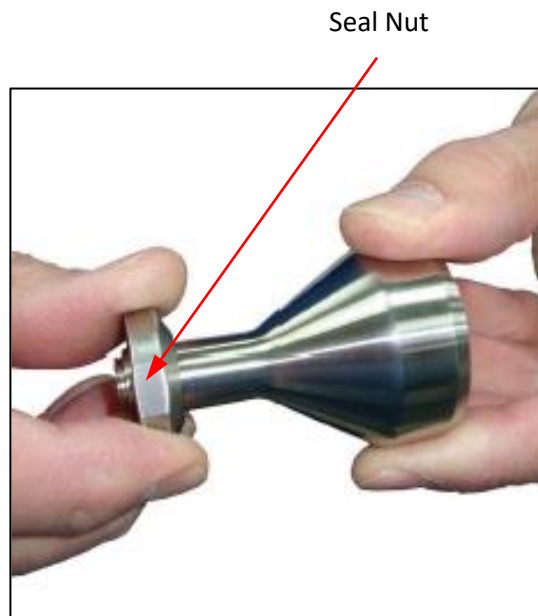

Figure 3-8 Seal Nut & ISO Probe
2. Thread the Seal Nut onto the ISO Probe until it stops, as shown in Figure 3-8.